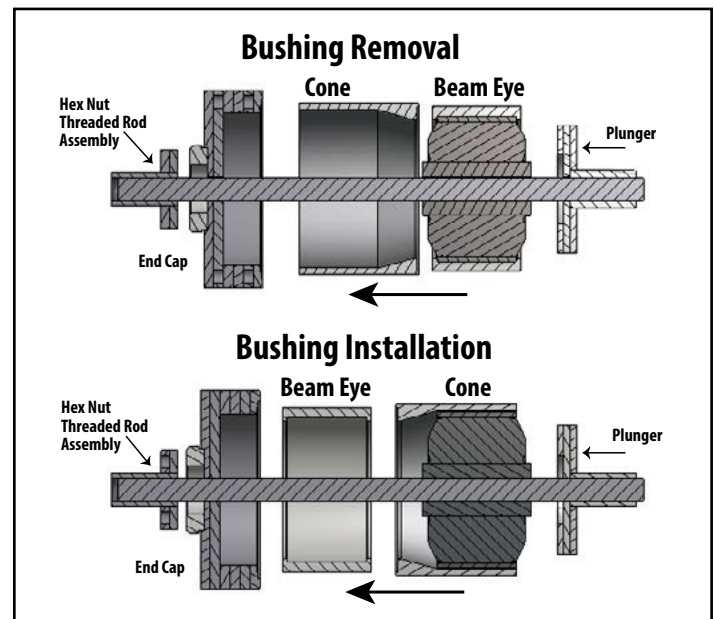

Figure 9. Bushing Replacement Tool 6100041 is for RAR-266 suspensions with narrow bushing.
2. Assemble the bushing replacement tool and place on the eye of the beam (Figure 9). NOTE: Cone is tapered inside to a smaller opening on one end.
4. Assemble the bushing replacement tool and place on the eye of the beam (Figure 9).